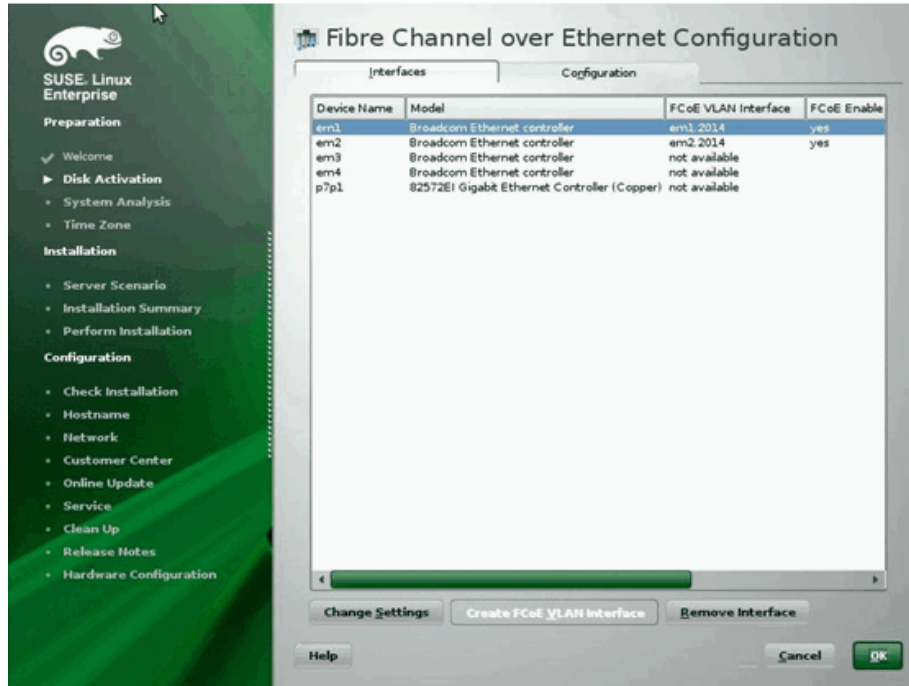

Figure 14-17. FCoE Interface Configuration
8. After completing the configuration of all interfaces, click **OK** to proceed (Figure 14-17).